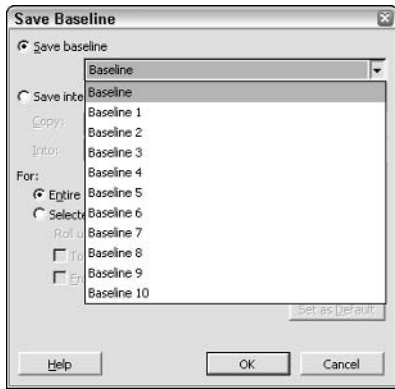

Figure 11-2: Use this dialog box to save a baseline or interim plan.
1. Choose Tools ⇨ Tracking ⇨ Save Baseline to open the Save Baseline dialog box, as shown in Figure 11-2.